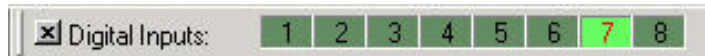

Figure 8-5
- Click the Input 7 box. A The box will change color, as shown in Figure 8-5. This serves as an Input On signal.